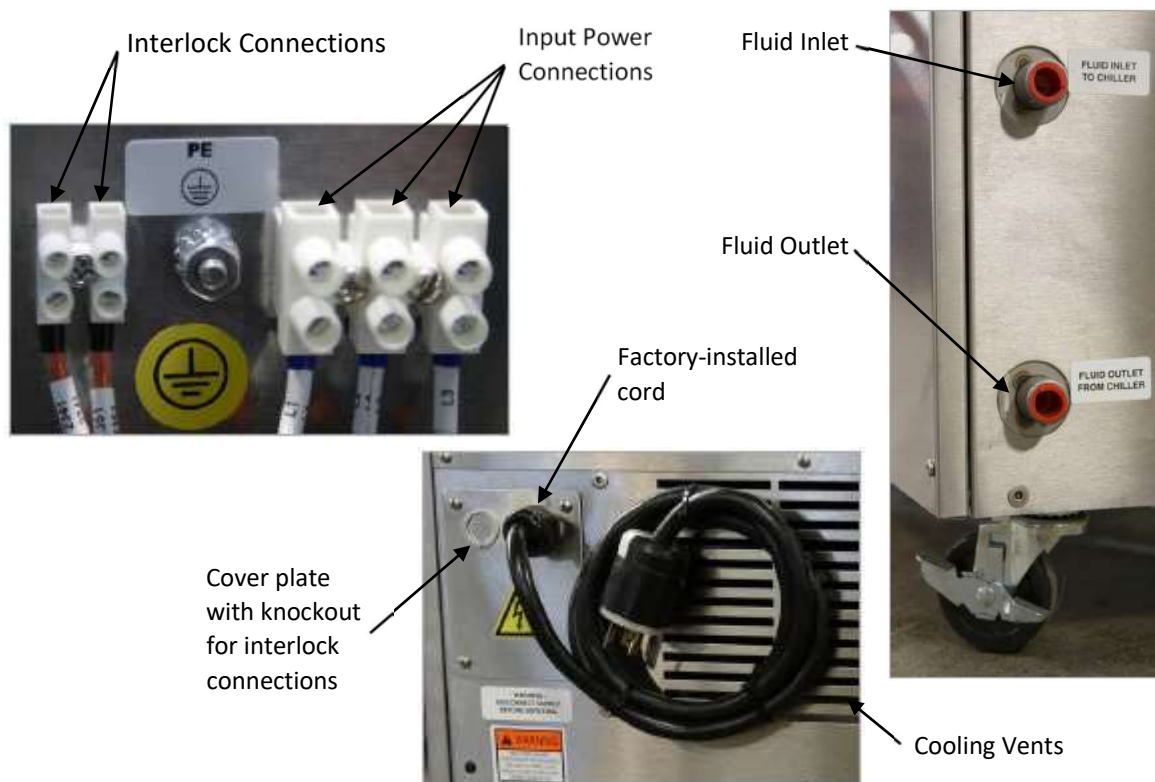
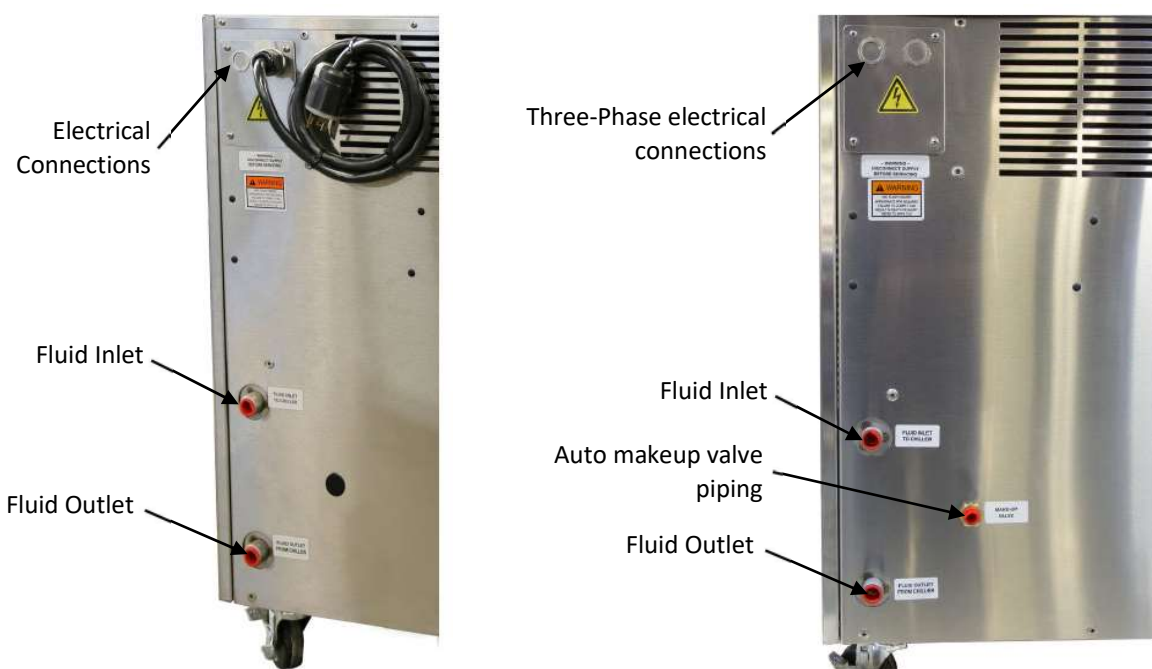

Figure 2: Typical Features - Rear
Figure 9: Electrical and Piping Connections – rear of Chiller
Some models have a factory-installed power cord. The 1.5 ton and 2 ton models, as well as all three-phase models have hard-wired electrical connections; see **Figure 2**. The electrical connections are on the top rear corner of the unit; see **Figure 9**. Hard-wire and control/monitoring terminal blocks are behind a plate at the top left corner of the rear of the chiller. The plate is held in place by four Phillips screws; refer to **Figure 2**.
1. Extract the four screws holding the cover plate (with knockouts) to the J Series cabinet; refer to **Figure 9**